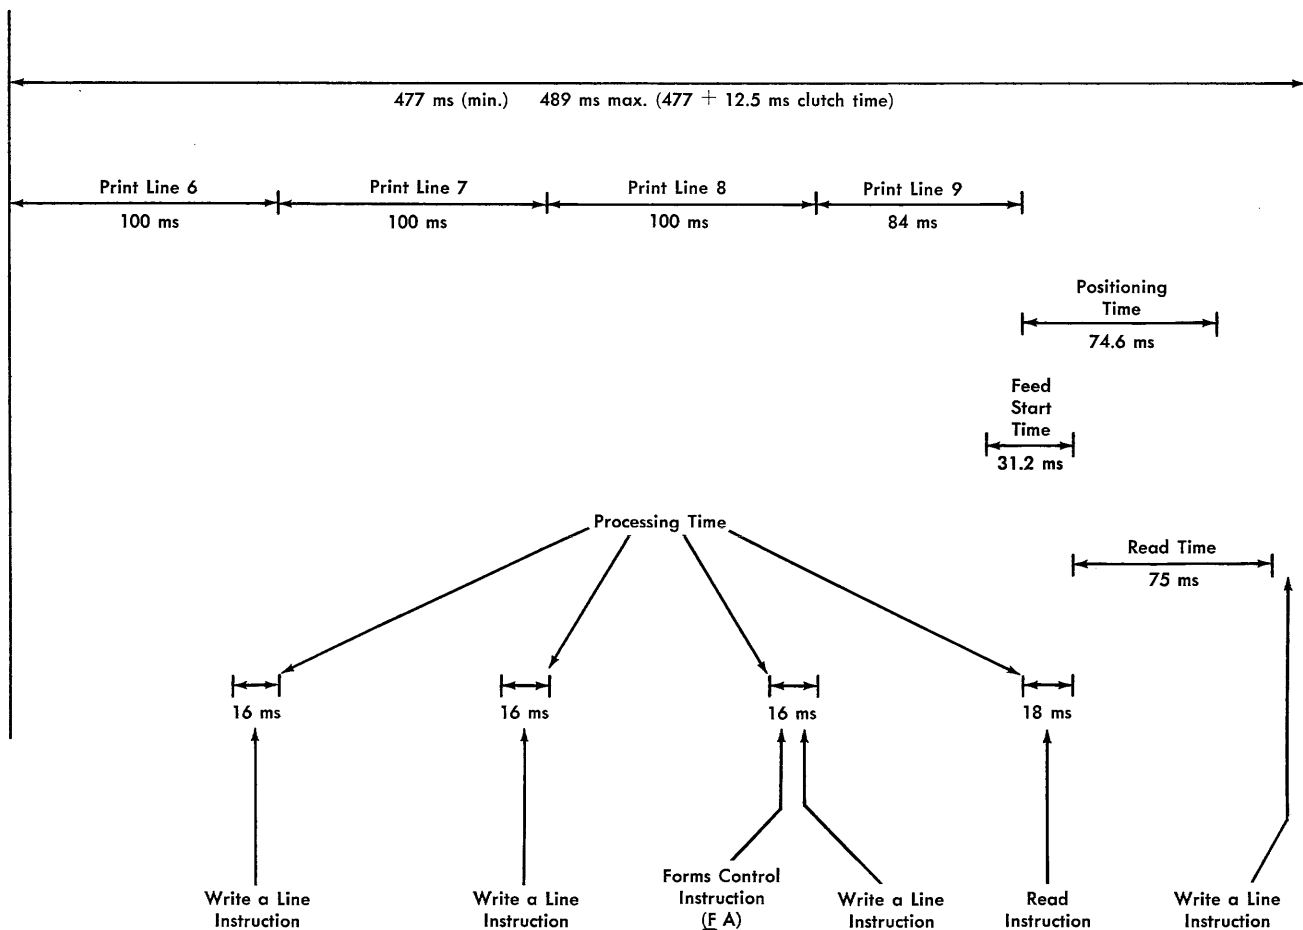

Figure 20. Print (4 Lines) and Read Timing Chart, IBM 1404
Figures 20 and 21 illustrate the time necessary to print (4 lines), and read each card as it passes through the card feeding mechanism. *Without* the special feature, print storage, the print instruction (2) cannot take effect